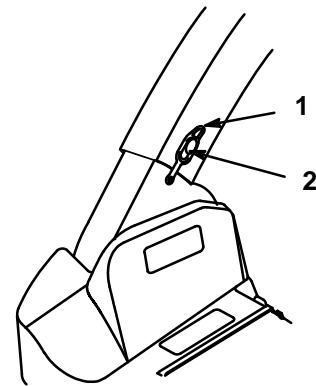

Figure 27
1. Unhook the rubber latch from the knob (Fig. 27).
2. Slide the lower end of the discharge tube off the blower discharge opening (Fig. 27). Pull the upper end of discharge tube out of bagger top.